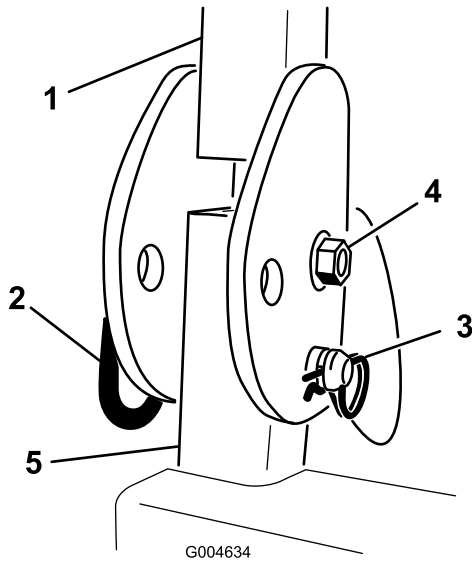

Figure 94
2. Remove the bolt, nut, hair pin cotter and pin securing each ROPS assembly to the ROPS posts (Figure 94). Remove the ROPS assembly.